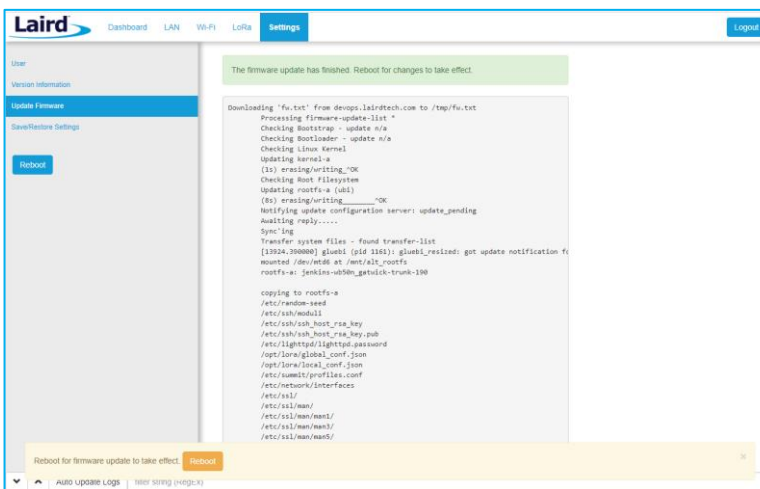

Figure 52: Reboot prompt
- At the end of the update, you are prompted to reboot the gateway. Click **Reboot**. The gateway must be rebooted for the update to take effect (Figure 52).